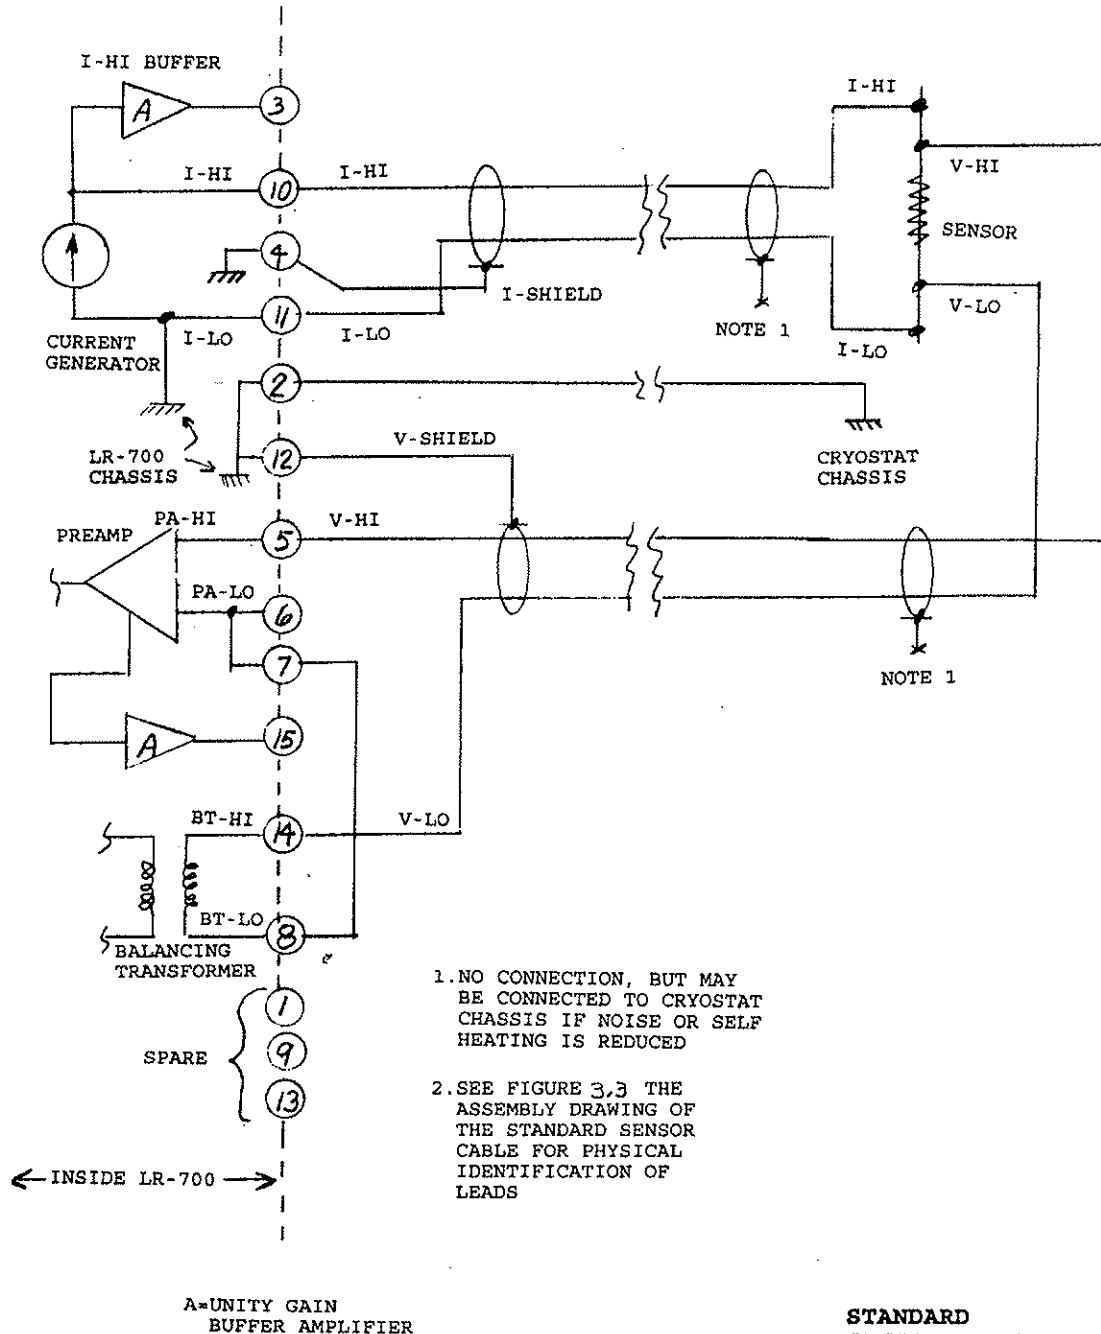
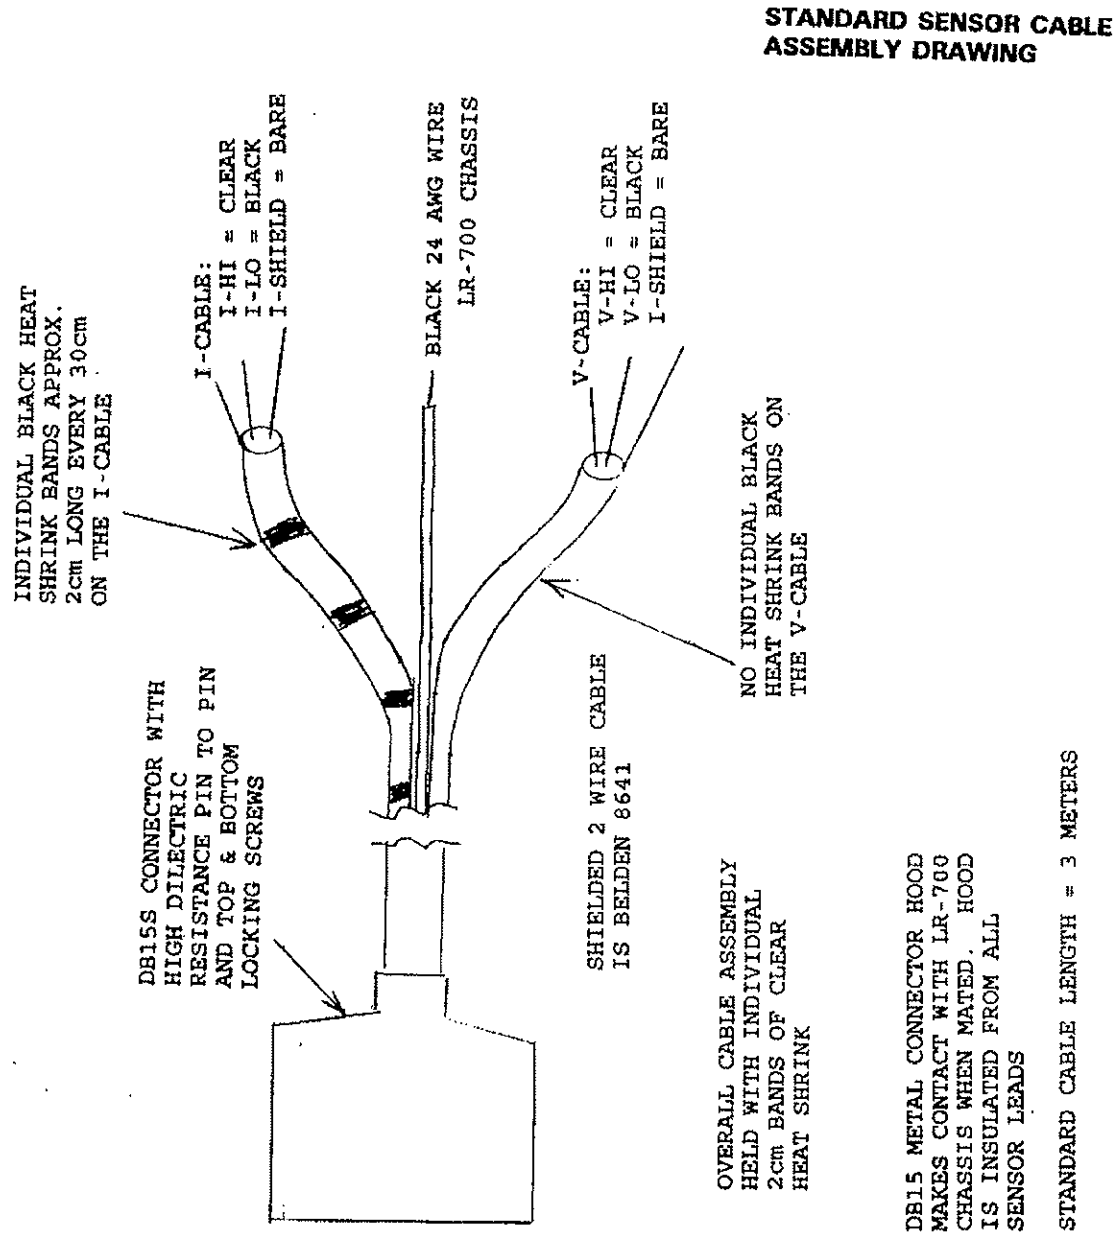

Figure 3.2
Figure 3.3
The standard sensor cable is supplied with the LR-750 unit. Figure 3.2 shows a schematic of this cable connected to a resistance sensor. Figure 3.3 is a physical assembly drawing of this cable allowing visual identification of each of the sensor leads without disassembling or electrically testing the cable. This cable connects both the I and V shields to ground. It is the simplest cable to hook up to the cryostat and one that is least prone to interference or cause oscillation.
The standard cable provided is the cable with grounded shields as illustrated in Figure 3.2. Other example sensor configurations are given to help the user configure the sensor for specific applications.
2. PHYSICAL IDENTIFICATION OF I-CABLE, V-CABLE, AND CHASSIS LINE SUBSECTIONS ARE THE SAME AS SHOWN IN THE STANDARD SENSOR CABLE ASSEMBLY DRAWING, FIGURE 3.3